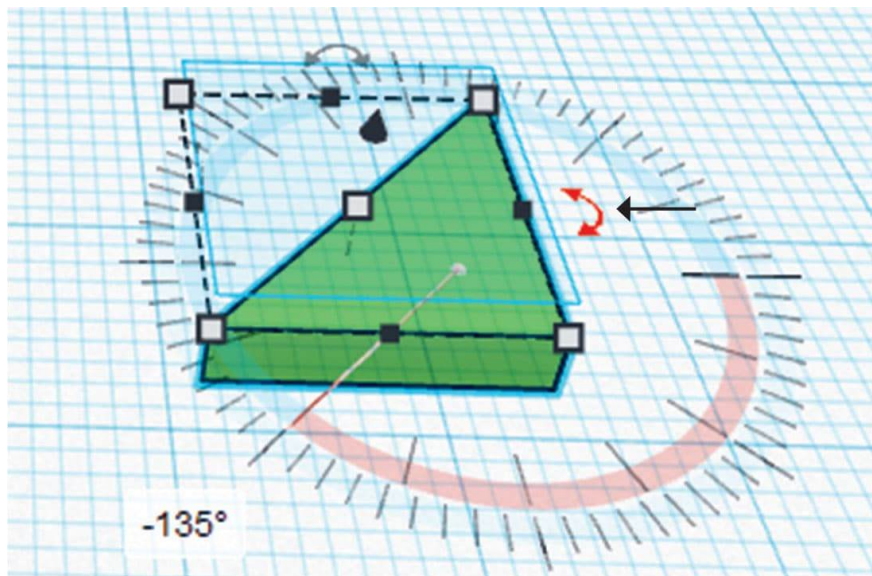

FIG. 4: Align the right angle adjacent sides with the workplane gridlines.
3. Now make sure the sides that form the right angles of the triangular prism are parallel to the gridlines on the workplane (fig. 4).
9. Now make sure the sides that form the right angles of the cube are parallel to the gridlines on the workplane as we did in fig. 4.